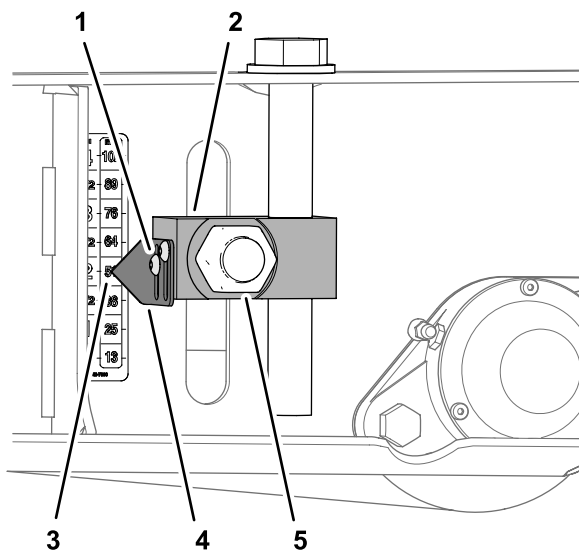

Figure 84
6. Loosen the socket-head screws that secure the 2 pointers to the height-of-cut adjuster block, align the pointers to the 51 mm (2 inches) mark on the decal, and tighten the screws (**Figure 84**).
7. Torque the 4 nuts that secure the 4 height-of-cut adjuster blocks (Figure 82 and Figure 84) for the front and rear rollers to 322 to 396 N·m (238 to 292 ft-lb).